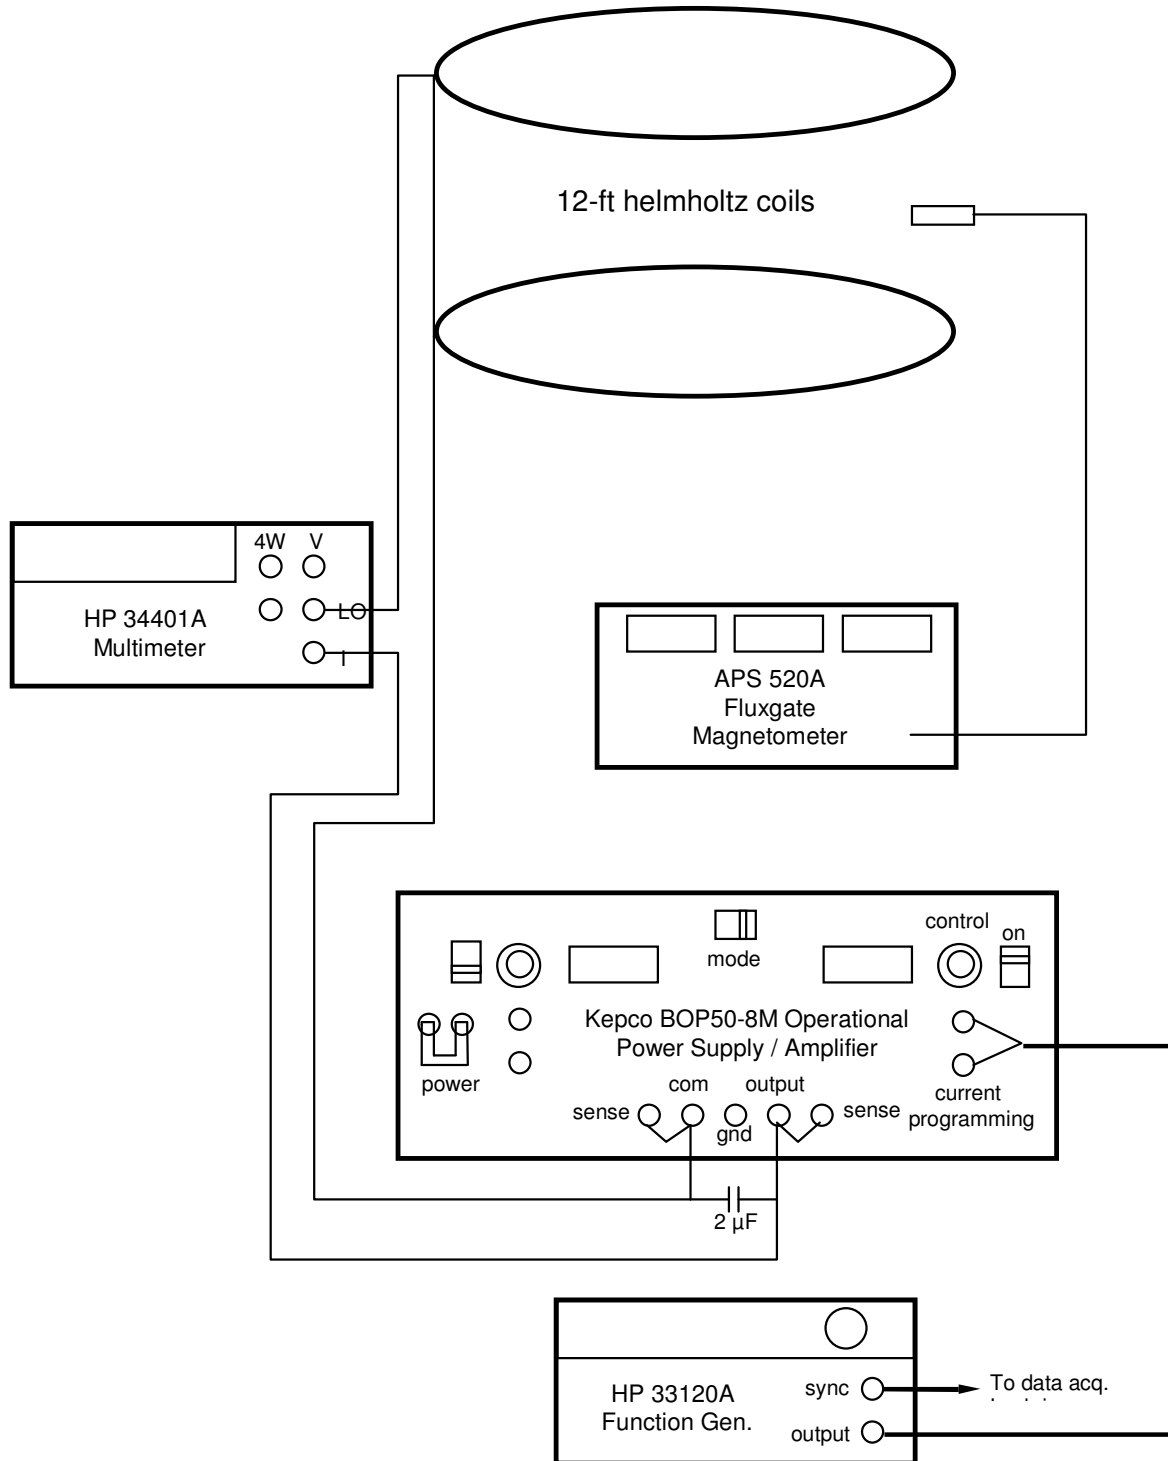

Fig. 1 Field Coil setup. Flight magnetometers and flight SQUIDs are not shown.
- L.3.2 Connect the coil set, operational power supply, digital multimeter, and function generator per Fig. 1. Note: The output shunting capacitor is necessary to prevent oscillation of the power supply when connect to the field coils.